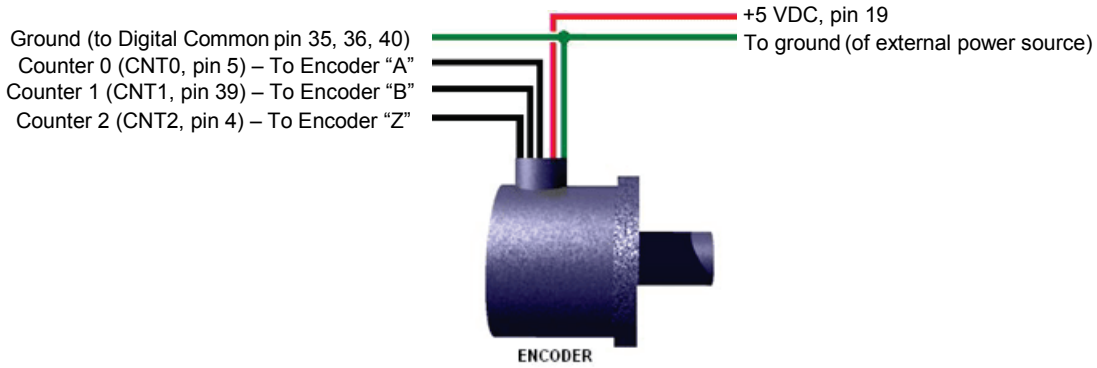

Figure 13. Encoder connections to pins on the SCSI connector\*
**Wiring to one encoder:** Figure 13 shows the connections for one encoder to a 68-pin SCSI connector on a PCI-2513. The "A" signal must be connected to an even-numbered channel and the associated "B" signal must be connected to the next [higher] odd-numbered channel. For example, if "A" were connected to CTR0, "B" would be connected to CTR1.